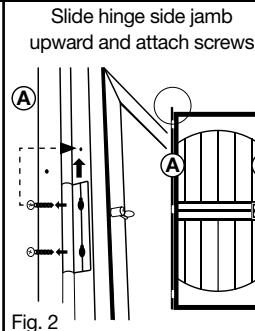

Fig. 2
Fig. 2 - Open hinge-side of Z-bar jamb (A) to expose hinge screws. Remove the two Phillips-head screws from each of the three hinges. Slide hinge-side Z-bar jamb toward what will now be the bottom of the door (where the top/head jamb was in Fig. 1) to the next pre-drilled hole. Be sure holes are aligned. Replace the two Phillips-head screw in each of the three hinges but do not over tighten.